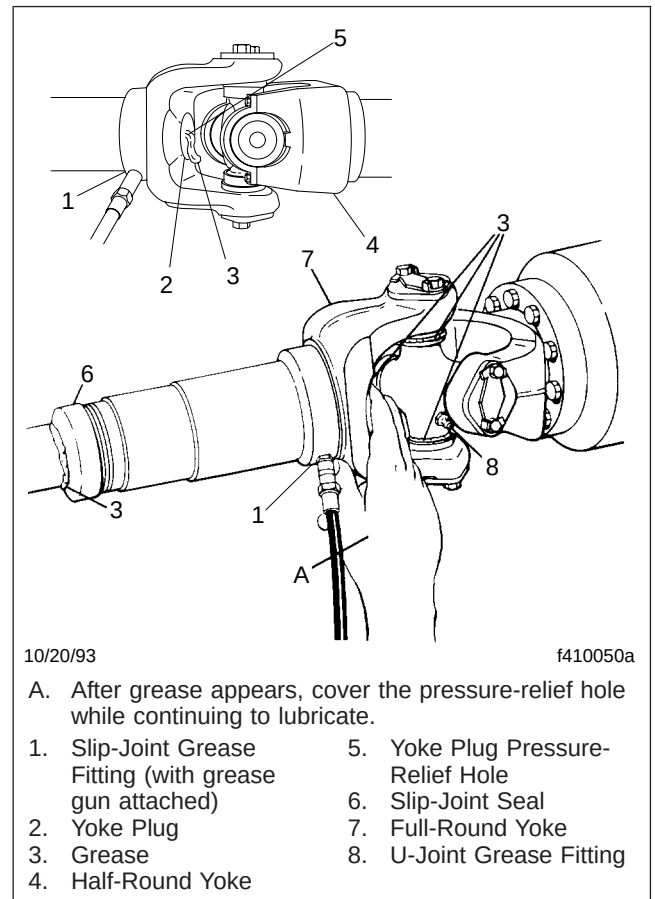

Fig. 4, Slip-Joint and U-Joint Lubricating
8. For driveshafts with slip-joints, check that the yoke plug is not loose or missing. See **Fig. 4**, Ref. 2. Replace the yoke plug if needed. If the yoke plug is missing, the splined shaft may be hitting the yoke plug and knocking it out; check the driveshaft for proper length.
1. Wipe all old grease and dirt from each U-joint grease fitting. See **Fig. 4**, Ref. 8.
1. Wipe all old grease and dirt from the slip-joint grease fitting. See **Fig. 4**, Ref. 1.
joint seal (**Fig. 4**, Ref. 6). This ensures complete lubrication of the splines.